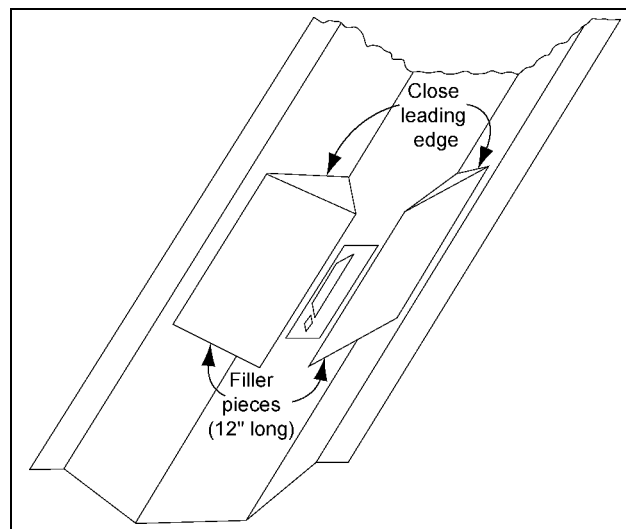
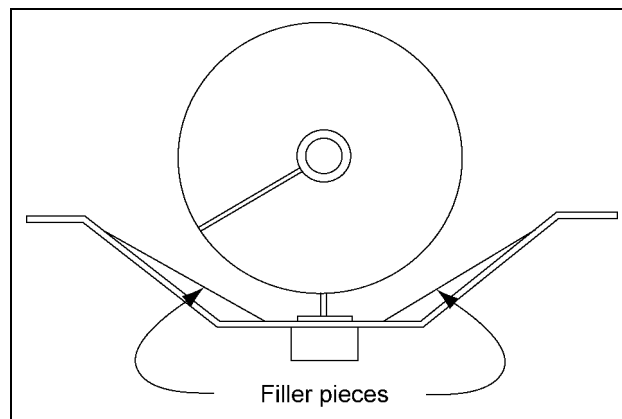
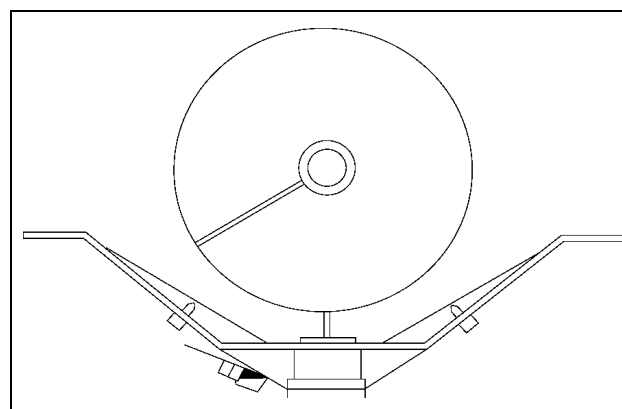

Figure 4G
Figure 4H
Figure 4I
5. On the flat bottom pan, make some filler pieces 12" long to keep the grain closer to the sensor flag. (See Figure 4G, Figure 4H and Figure 4I.) Be sure the leading edge is closed so grain cannot get under the pieces. Weld the pieces in place as shown in Figure 4G.
7. Securing the sensor to the flat pan will require modified clamps. Cut the end off the clamp and mount it with a self-drilling screw to the tapered side so the screw tip goes under the filler pieces added earlier. Attach the screw end of the clamp on the other side with a self-drilling screw. Have the length such that the screw is beside the sensor as shown in Figure 4I on Page 15.